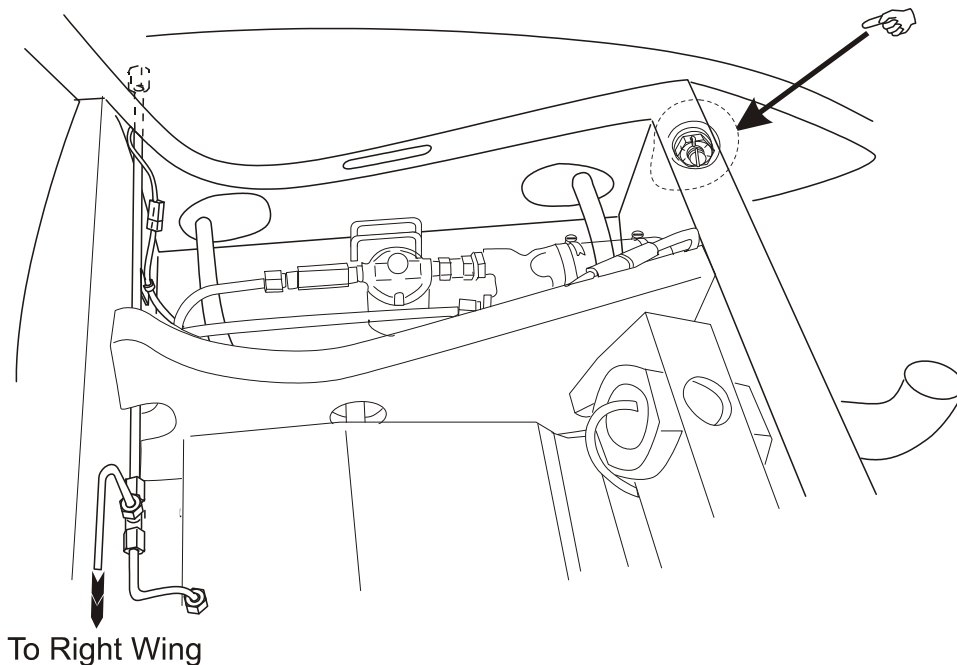

Fig. 2
- 1.8.3. Release the cockpit trim panel in front of the pilots seat to get access to the RH and LH front wing shear bolts I.A.W. MM chapter 25-10 (Fig. 2).